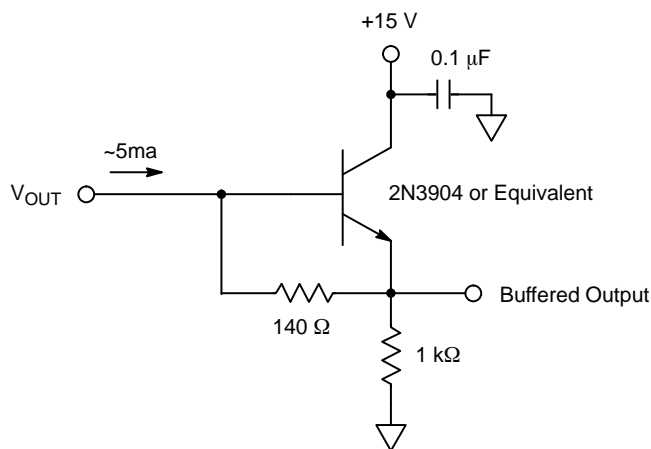

Figure 8. Example Output Structure Load Diagram
1. An output load sink must be applied to V_{OUT} to activate output amplifier – see Figure 8.